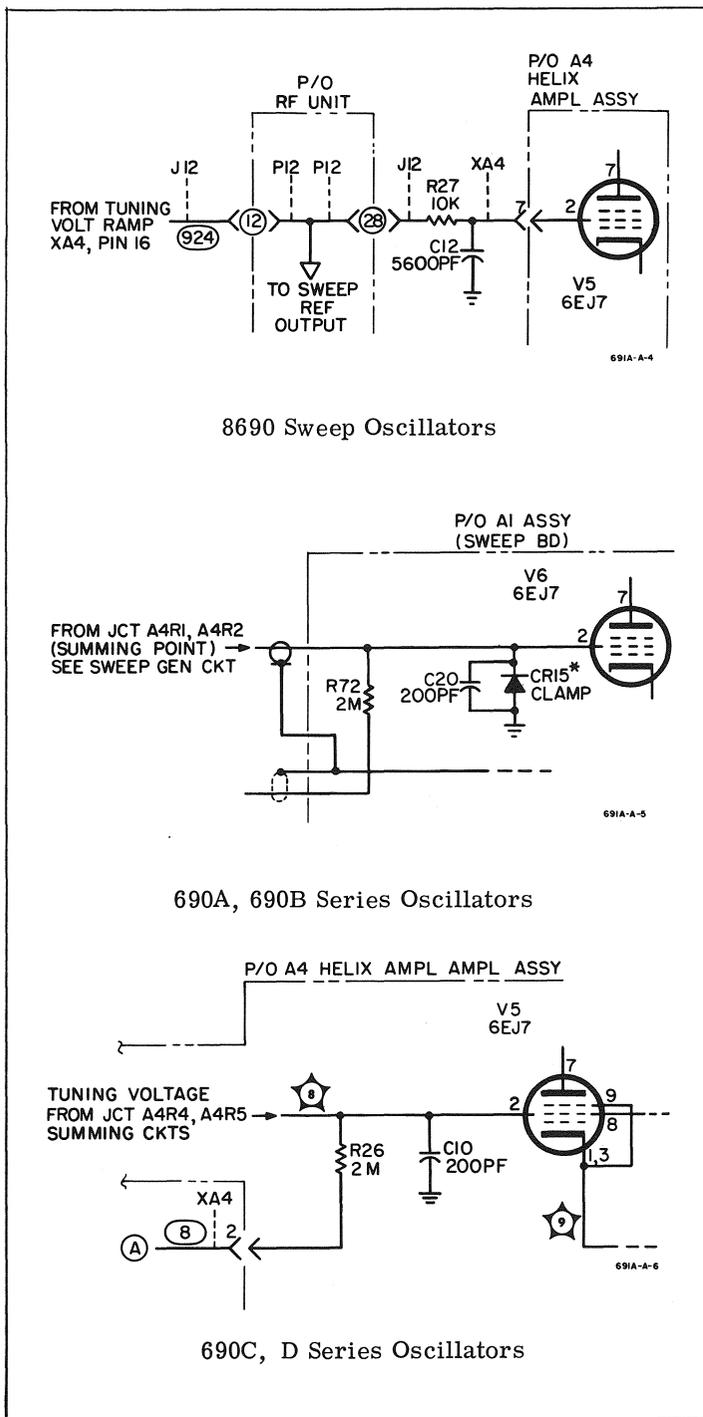

Figure 1. Partial Schematics
- a. Model 8690A: correct helix voltage generator schematic as shown in Figure 1 and add the
- b. Models 691C, 691D, 692C, 692D, 693C, 693D, 694D, H01-693D, H01-694C, H01-694D: correct helix voltage generator schematic as shown in Figure 1 and add the following part to Replaceable Parts List:
- c. Models 691A, 691B, 692A, 692B, 693A, 693B, 694A, 694B, H01-692A, H01-692B, H01-693A, H01-693B, H01-694A, H01-694B: correct helix voltage generator schematic as shown in Figure 1 and add the following part to Replaceable Parts List: